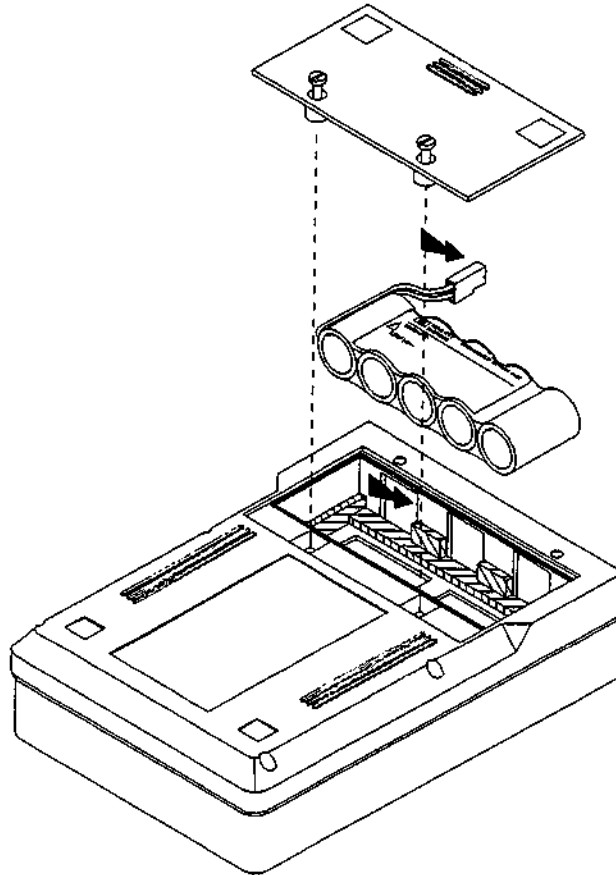

Figure 8-1.
2. Remove the two screws from the battery cover plate as shown in figure 8-1.